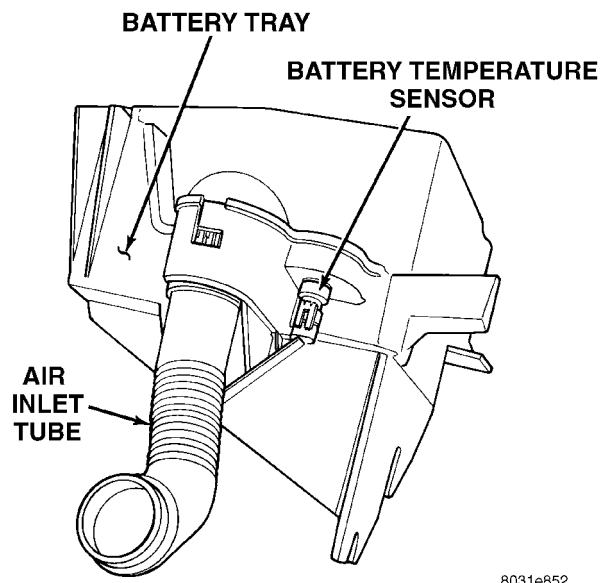

Fig. 52 Battery Temp. Sensor Connectors
(25) Inspect the connection at the battery temperature sensor (Fig. 52).